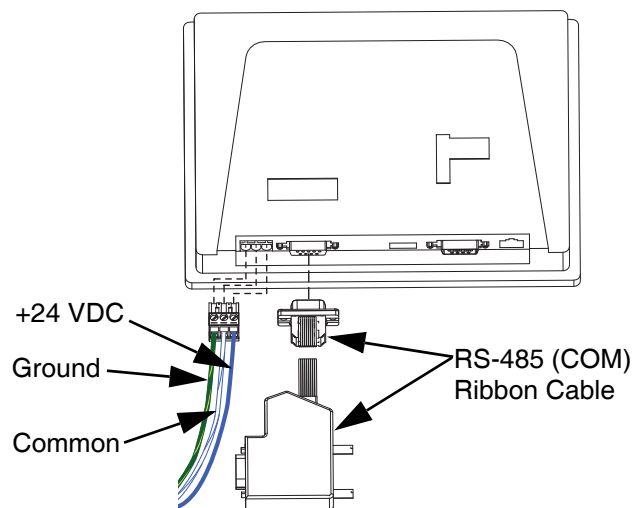

FIG. 6: Connect the Cables to the HMI
11. Remove the DC power connector from the new HMI and connect the wires to it. Connect the blue wire #8, +24 VDC, on the right and the white wire (with blue stripes) #6, DC common, in the middle as shown in Figure 6.
13. Connect the RS-485 (COM) ribbon cable included in the kit and the newly connected power cable to the replacement HMI as shown in Figure 6.